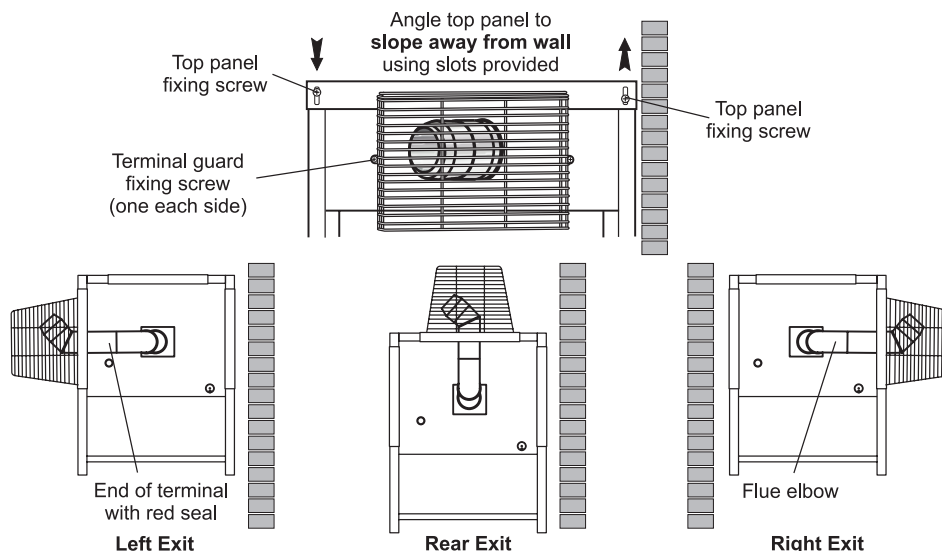

Figure 4-1: Standard low level flue provided with Outdoor Module
9. The top panel of the casing has been designed so that it may be fitted to create a slight slope away from the side positioned against the wall. To tilt the top panel, loosen the four top panel casing screws and push down on the side furthest from the wall. Tighten the screws. See Figure 4-1.
1. To gain access to the water connections, remove the two screws securing the back panel and remove it by withdrawing it forwards at the bottom. Remove the top casing panel, see Section 4.7 and Figure 4-1.